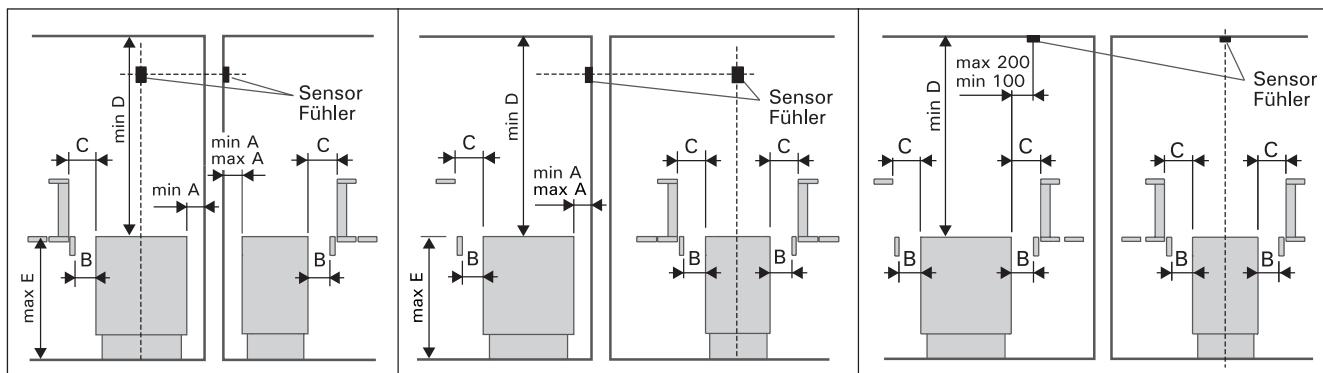

Figure 3. The heater's safety distances. Note! If E is higher than E max, then B min. = C min.
- The location of the heater fulfils the minimum requirements concerning safety distances given in fig. 3 and table 1.
Before fixing the heater, the minimum safety distances to inflammable materials should be taken into consideration. See Table 1 and Figure 3.